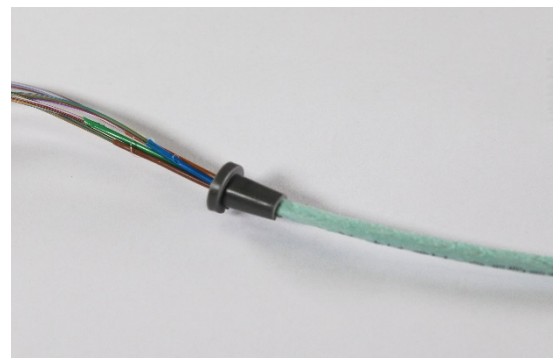

Figure 4
6.4 Move the bushing towards the edge of the stripped portion of the PEF jacket. The Bushing should be the division between the exposed ribbons and the PEF jacket. **See Figure 4**